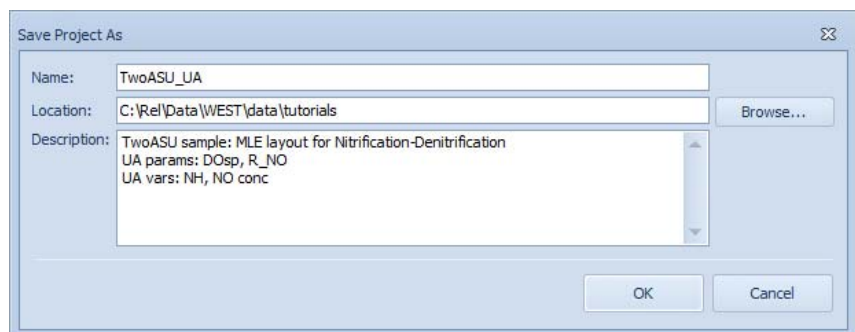

Figure 12.1 Save As dialogue, to use the TwoASU sample as the starting point for the Uncertainty Analysis experiment
- Provide a name and a description for the new Project (Figure 12.1)